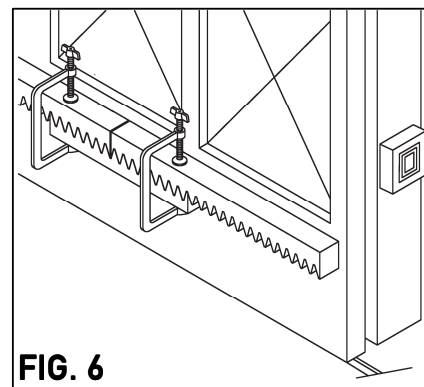

FIG. 6
8. It is suggested to use an additional section of the rack clamped on the section which is already connected to the gate and on the section to be connected to grant proper teeth pitch between different section (Fig. 6).